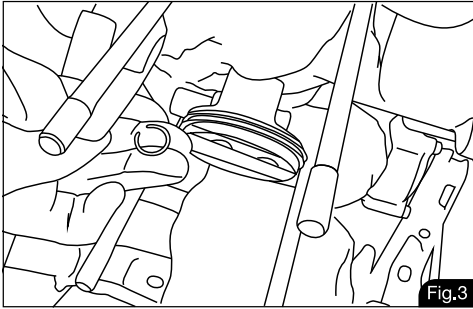

Fig.3
Note (Fig.3): When installing the piston circlip, Make sure the clip end is not aligned with the piston cut-out to prevent it from coming loose during operation.
4. Fit the piston to the connecting rod, then install the piston pin and circlip(s). (Fig. 3)